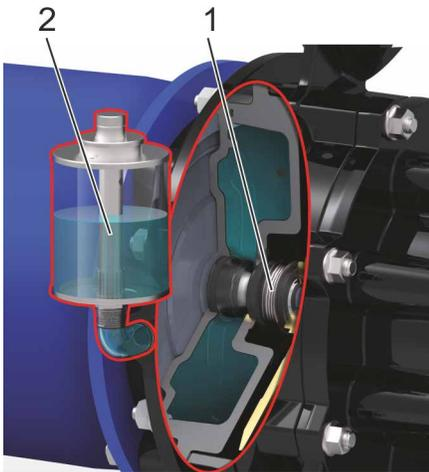

Fig. 49 Checking the Seal Guard system (example: herborner.F-N)
1. Check the fill level of the Seal Guard system compensation tank (Fig. 49/2).
⇒ If the fill level visibly changes or substances are present in the Mobil Cibus 46 with NSF H1 - license, the mechanical seal (Fig. 49/1) needs to be inspected and replaced if necessary (↪ *chapter “9.3.1 Disassembling and reassembling a pump” on page 129*).